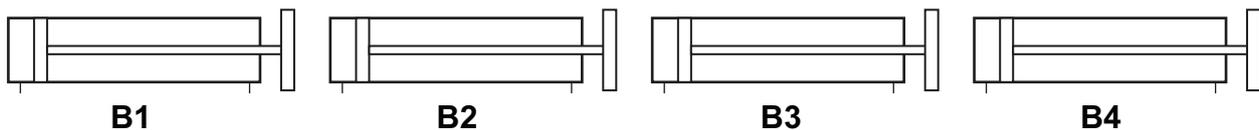

Fig. 4(a)(ii)
- (b) (i) With reference to the data below calculate the air consumption in litres for the double acting cylinder shown in **Fig. 4(b)(i)** below for one complete cycle: [5]